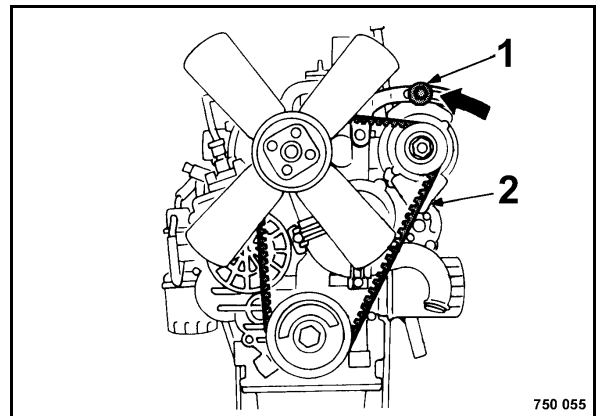

Fig. 102
- Slacken slightly the fastening screws 1 and 2 (Fig. 102) slightly.